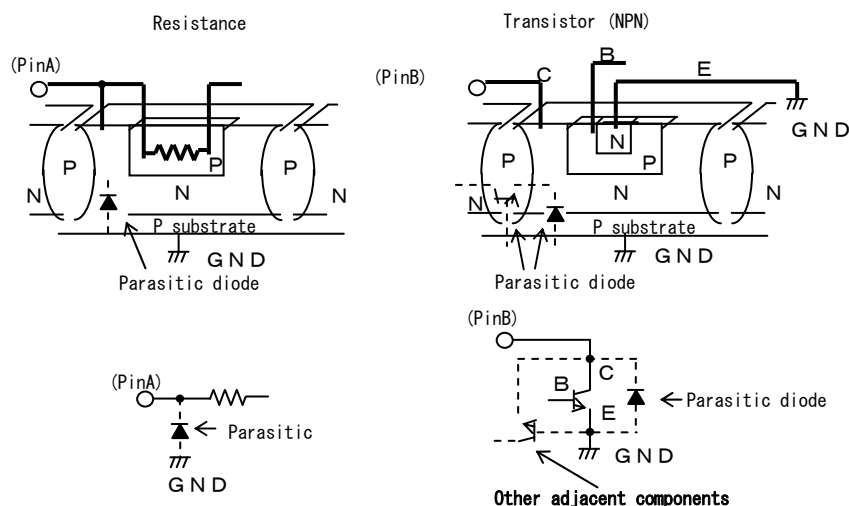

Fig. 4. Simplified structure of a Bipolar IC
12. This IC is a monolithic IC which (as shown is Fig.4) has P⁺ substrate and between the various pins. A P-N junction is formed from this P layer of each pin. For example, the relation between each potential is as follows,